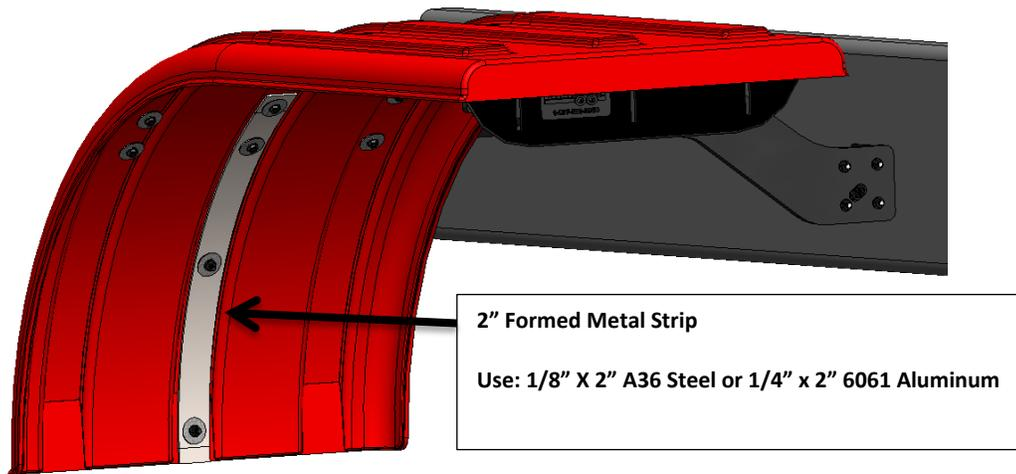

Figure 2 -Example of MIN950 With Metal Reinforcement
- The metal bar should span from the bottom edge of the fender or the bottom edge of the structural rib (depending on the fender design) and extend up the mounting bracket. See Figure 2 below for an example.